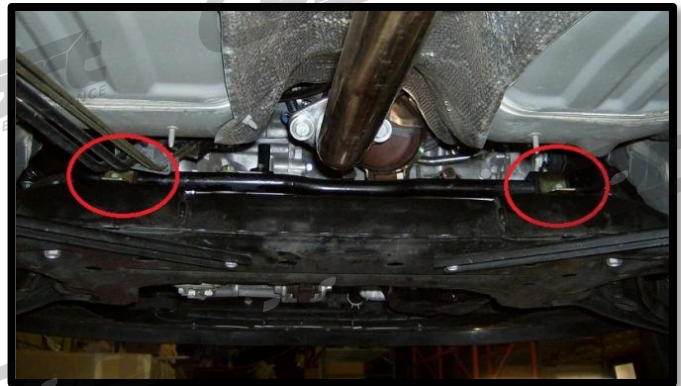

Figure 1d
- H) Remove the two (2) bolts securing the sway bar bracket located on the top side of the subframe, (circled in red in Figure 1d) using a 14mm socket. Remove the bracket and repeat for the other side.